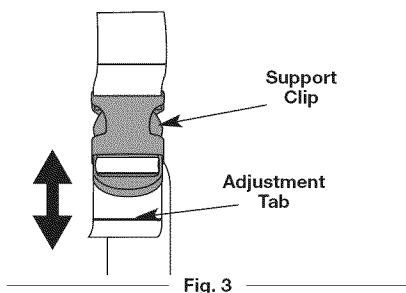

Fig. 3
2. Adjust by lifting slightly on the rear of the lower clip then push or pull the loose end of the strap length to fit the operator's size and comfort. (Fig. 3).